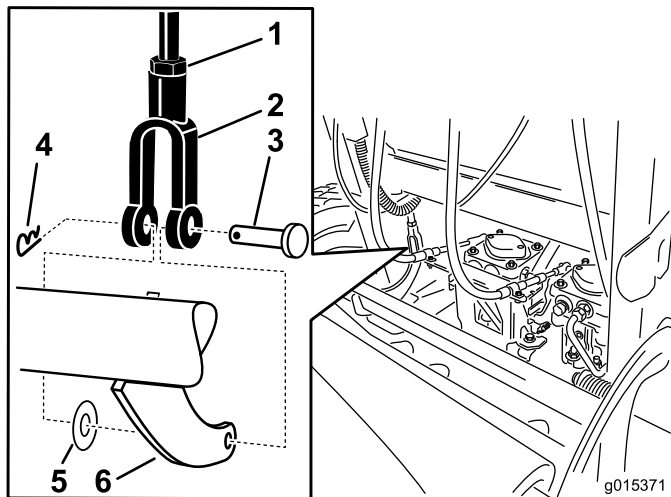

Figure 71
5. To adjust the brake, remove the hair pin cotter and clevis pin from the lower brake lever and yoke (Figure 71).
6. Loosen the jam nut (Figure 71).
7. Rotate the yoke. To tighten the brake, rotate the yoke up. To loosen the brake, rotate the yoke down (Figure 71).
8. Secure the yoke to lower brake lever with the hair pin cotter pin and clevis pin (Figure 71).
9. Tighten the jam nut (Figure 71).